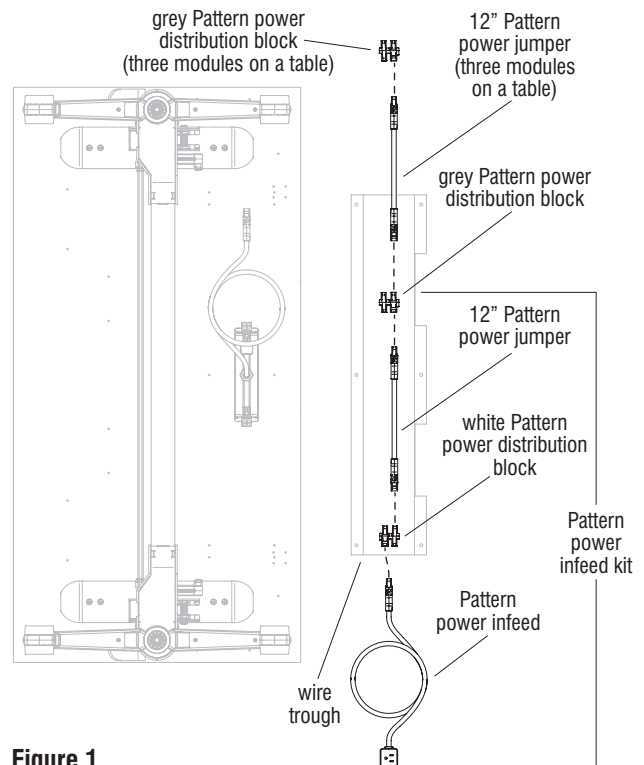

Figure 1
1. Position a wire trough with the open-side face up, onto the floor along the back side of each upside-down table as illustrated. Face the wire trough's Snap-In RPT module mounting holes of the wire trough away from the back edge of the table to make flipping it into position easier once other components have been installed together into it (Figure 1).
2. For a run of tables, start Pattern electrical system assembly with the table that will contain the Pattern power infeed. Place the Pattern power infeed into the wire trough, routing the connector end toward the middle of the trough, and leaving the plug end out of the wire trough as illustrated (Figure 1).
3. Locate one white and one grey Pattern power distribution block. Plug the power infeed's male connector end into the white power distribution block first, as illustrated (Figure 1 & Detail A).
4. Next locate a 12" Pattern power jumper and plug the female connector end into the white power distribution block also. As illustrated in Detail A, either port opposite the power supply cord is fine (Figure 1 & Detail A).
5. Take a grey power Pattern distribution block in hand. Plug the previously installed (step 4) 12" Pattern power jumper's male end into the grey power distribution block as illustrated (Figure 1 & Detail B).
6. Steps 1 through 5 assemble a standard Pattern power infeed kit (Figure 1). If the table being assembled has the power infeed installed and it will receive three power modules, an additional 12" Pattern power jumper and grey Pattern power distribution block on the end will be required after the first grey distribution block (Figure 1).